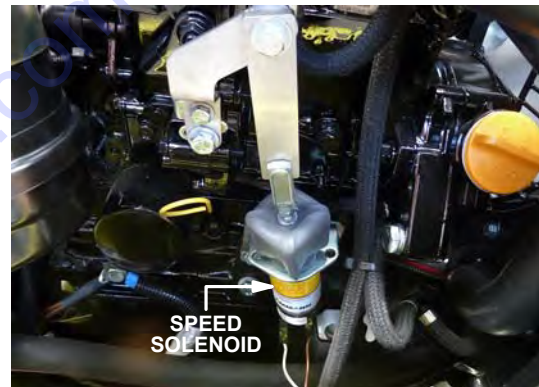

Figure 2. Speed Solenoid
2. Locate the speed solenoid (Figure 2).